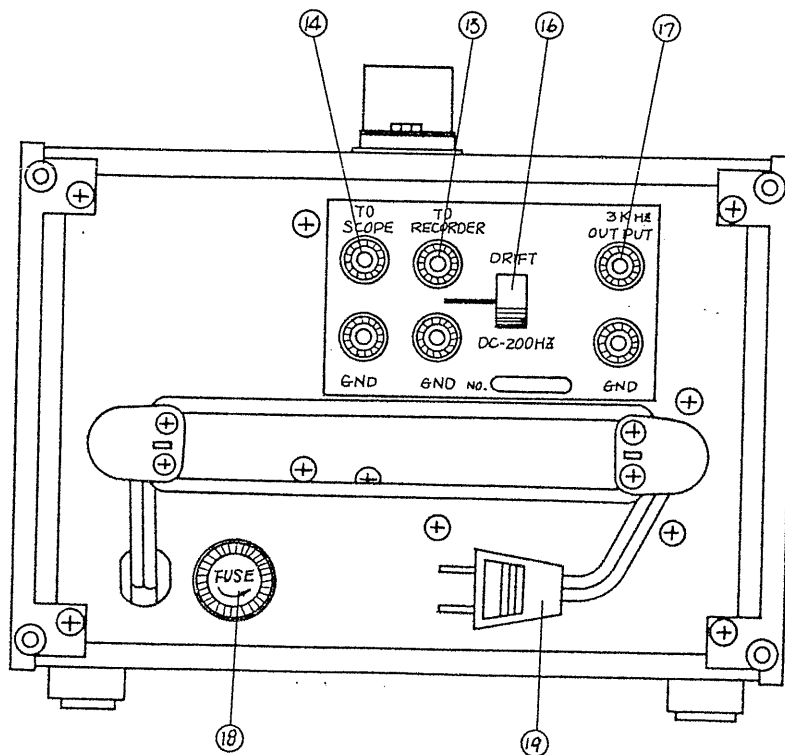

Fig. 3-2 Rear panel layout
3.2 EXPLANATION OF REAR PANEL (See Fig. 3-2.)
- (14) TO SCOPE: This terminal provides a wow and flutter signal which can be displayed on an oscilloscope for waveform observation and period measurement. The GND terminal is connected to the chassis. The output impedance is approximately 50 k Ω .
- (15) TO RECORDER: This terminal is for recording of drift (tape speed), or wow and flutter, using a recorder (oscillograph). The GND terminal is connected to the chassis. The output impedance is approximately 50 k Ω .
- (16) DRIFT/DC-200HZ SWITCH: This switch selects recording of either drift (tape speed) or wow and flutter. The DRIFT position is for the former and the DC-200Hz position for the latter.
- (17) 3 kHz OUTPUT: This terminal provides a 3 kHz output used as a recording signal. The GND terminal is connected to the chassis.
- (18) FUSE: AC line fuse holder. The fuse is a conventional tubular glass fuse (1 A).
- (19) POWER CORD: AC line power cord. (To be connected to an outlet of nominal 100_V, 50/60 Hz AC.)